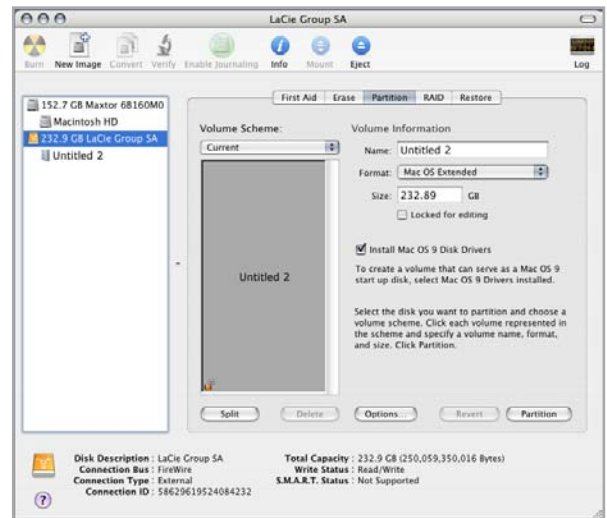

Fig. 4.5.2.
4. The Disk Utility dialog box will appear (Fig. 4.5.2.A). Your LaCie Biggest Quadra array will appear on the left-hand side, in the list of hard disks that are mounted on your system. You should see a volume that represents your internal hard drive, and one that reads **LaCie**.